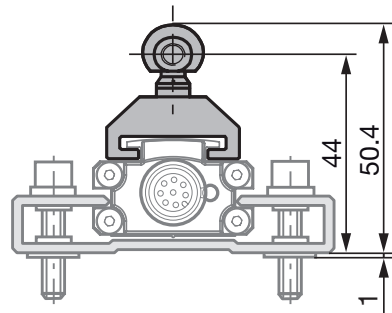
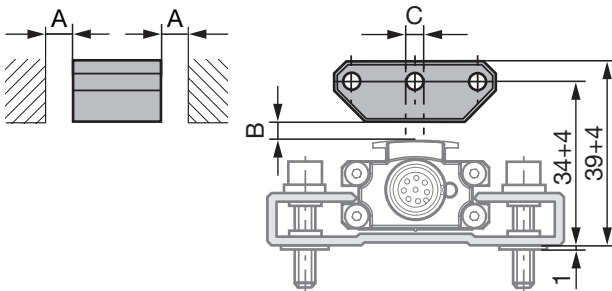

Fig. 4-1: Dimensions and distances with BTL5-F-2814-1S magnet
Fig. 4-3: Dimensions and distances with BTL5-P-3800-2 magnet
i The micropulse transducer in profile housing is suitable both for floating, i.e. non-contacting magnets (see Figures 4-3 to 4-7) and for captive magnets (see Figures 4-1 and 4-2).
- Ensure that the distance A between parts made of magnetizable material and the magnet is at least 10 mm (see Figures 4-3 to 4-7).
- Maintain the following values for distance B between the magnet and transducer and for center offset C (see Figures 4-3 to 4-7):
Tab. 4-1: Distance and offset for magnets (see Figures 4-3 to 4-7)